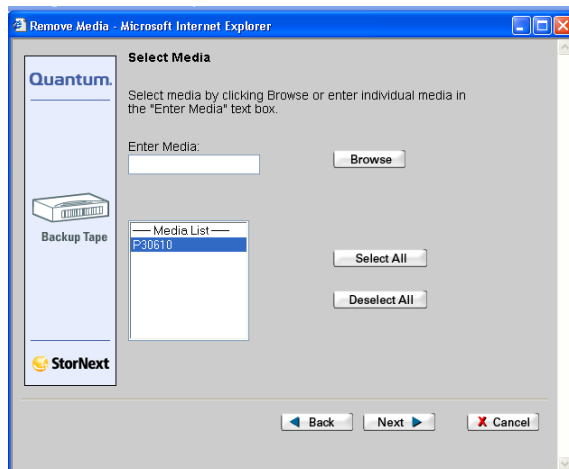

Figure 14.5-7. Select Media Screen
- 4 Select the **Media** to be removed (Figure 14.5-7), then select the **Next** button.